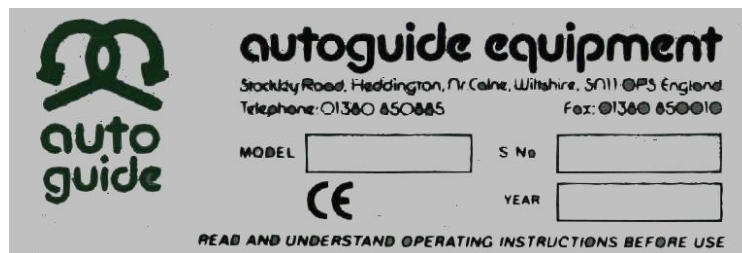

Fig. 1
A makers plate located within the offside main body identifies the Auto-Roller, see Fig. 1.
- a. Slacken the 4 bolts securing the drive motor to the motor bracket on the Auto-Roller (Ref Fig 1) with a 10mm Allen key.